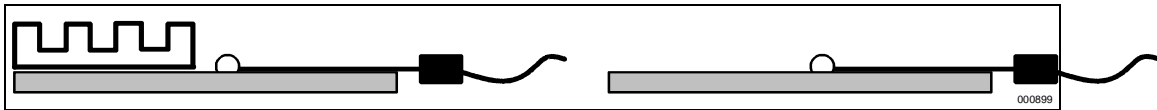

Figure 20. Technique for Measuring TPLATE with 0° Angle Attachment
To ensure functional and reliable processor operation, the processor's thermal plate temperature (TPLATE) must be maintained at or below the maximum TPLATE and at or above the minimum TPLATE specified in Table 47 and 48. Power from the processor core is transferred to the thermal plate at 2 locations. Figure 20 and 21 shows the locations for TPLATE measurement directly above these transfer locations. Thermocouples are used to measure TPLATE and special care is required to ensure an accurate temperature measurement. Before taking any temperature measurements, the thermocouples must be calibrated. When measuring the temperature of a surface, errors can be introduced in the measurement if not handled properly. Such measurement errors can be due to a poor thermal contact between the thermocouple junction and the measured surface, conduction through thermocouple leads, heat loss by radiation and convection, or by contact between the thermocouple cement and the heatsink base. To minimize these errors, the following approach is recommended:
- A thermocouple should be attached at a 0° angle if no heatsink is attached to the thermal plate. If a heatsink is attached to the thermal plate but the heatsink does not cover the location specified for TPLATE measurement, the thermocouple should be attached at a 0° angle (refer to Figure 20).